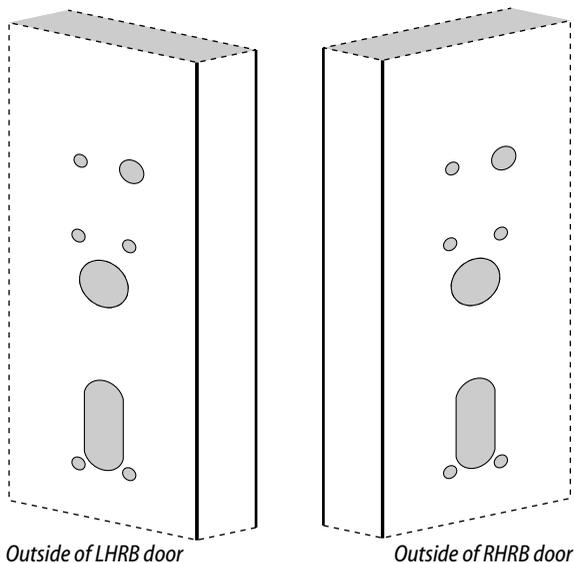
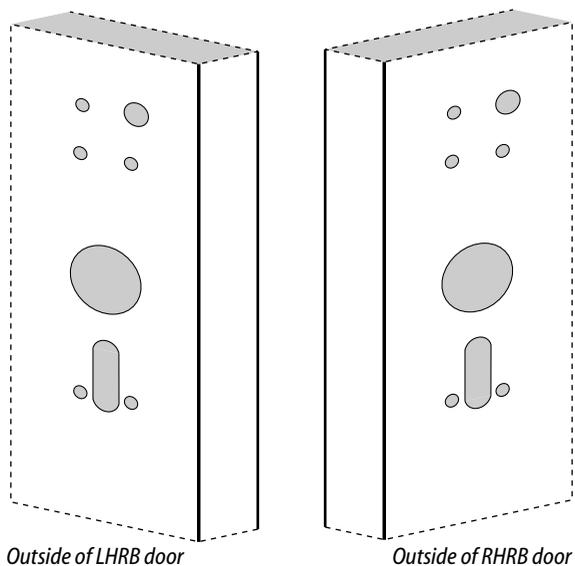
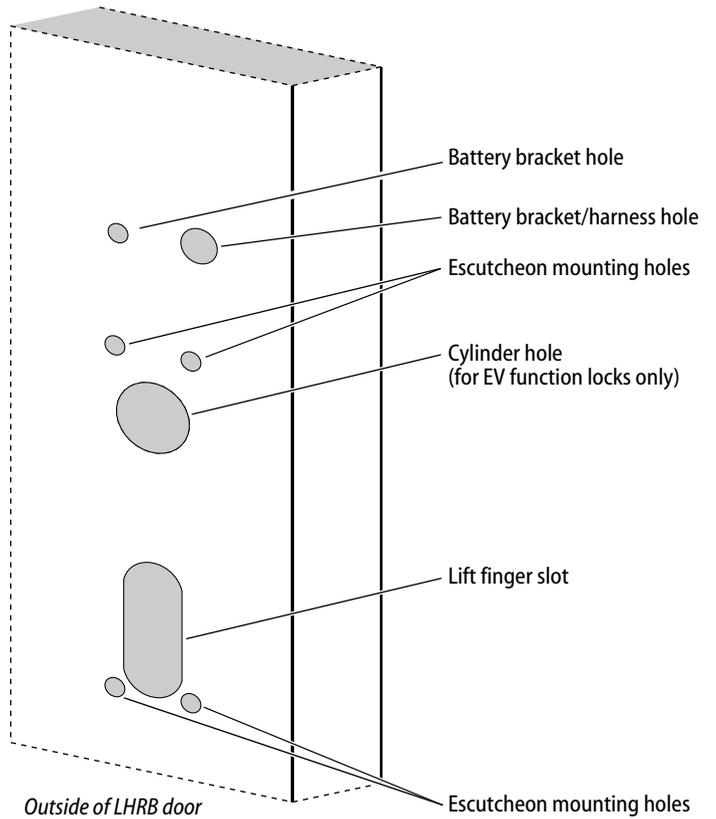

Figure 5a Drilling the trim holes for use with Precision Hardware and Sargent exit hardware
Figure 5b Drilling the trim holes for use with Von Duprin exit hardware
Figure 5c Trim hole guide – Stanley-Precision Hardware and Sargent door preparation shown
- 1 Drill the trim holes listed below; follow the instructions on the trim template. See Figure 5a or Figure 5b, and Figure 5c.